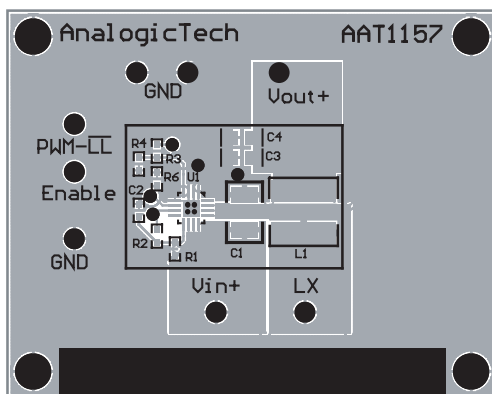

Figure 2: Evaluation Board Top Side.
The input capacitor RMS ripple current reaches a maximum when V_{IN} is two times the output voltage where it is approximately one half of the load current. Losses associated with the input ceramic capacitor are typically minimal and are not an issue. The proper placement of the input capacitor can be seen in the evaluation board layout (C1 in Figure 2).
Figures 2 and 3 display the suggested PCB layout for the AAT1157. The following guidelines should be used to help insure a proper layout.
6. For good heat transfer, four 15 mil vias spaced on a 26 mil grid connect the QFN central paddle to the bottom side ground plane, as shown in Figures 2 and 3.